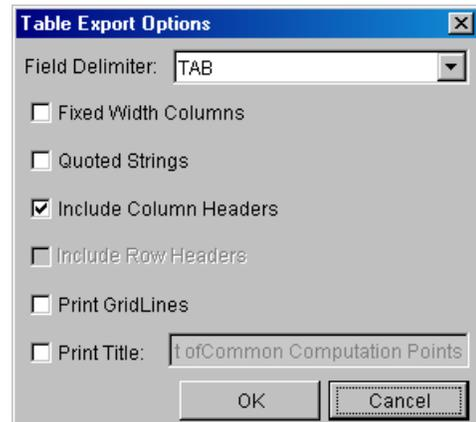

Figure 2.34 Table Export Options Dialog Box
3. The **Table Export Options** dialog box (Figure 2.34) will open.